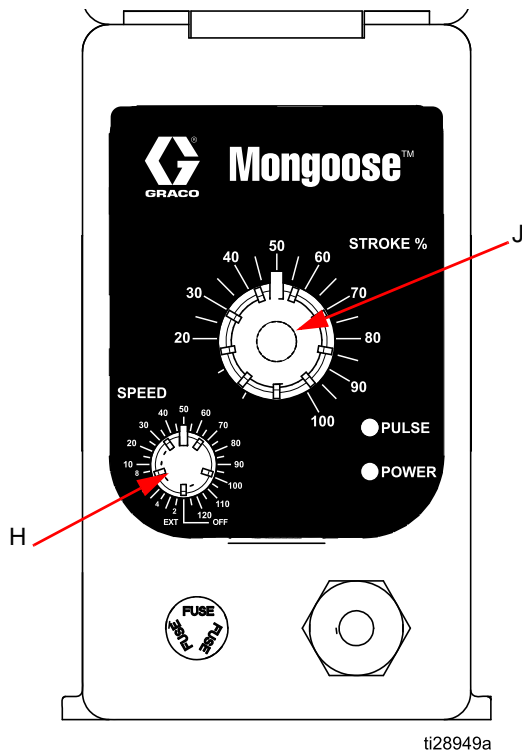

FIG. 5: Mongoose Control Panel
1. Connect power (B) to the pump.
2. Set the STROKE % knob (J) to 100%. (See FIG. 5 on page 10.)
3. Set the SPEED knob (H) to maximum cycles per second.
The Mongoose pump allows for the exact setting of the pump's SPEED knob (H) on the pump's control panel. See FIG. 5.